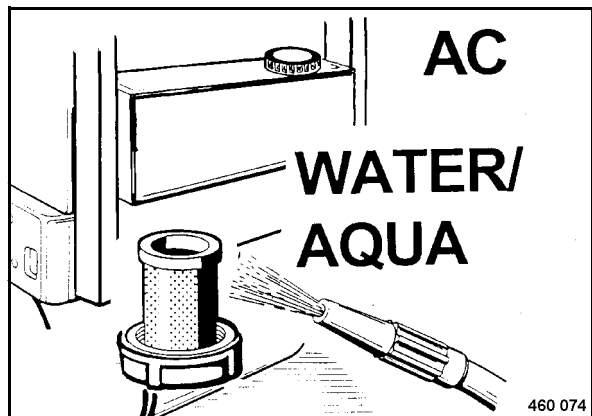

Fig. 112
- Take the emulsion filter (Fig. 112) out and clean it.